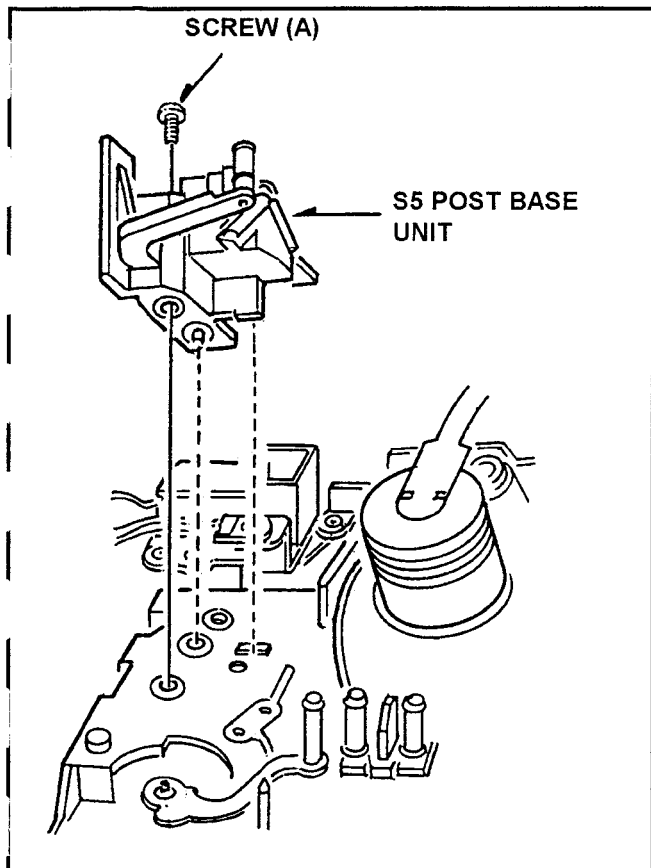

Fig. 6-17-1 Removal of S5 Post Base Unit
3. Unscrew the screw (A) and remove the S5 Post Base Unit as shown in Figure 6-17-1.
1. Install the S5 post Base Unit follow the removal steps in reverse order, then be careful the S5 Post Base Unit is install to mech chassis as shown in Figure 6-17-1.
2. After installation, Post Height pre-adjustment (Refer to item 5-5) and Linearity adjustment (Refer to item 5-18 [Tape Pass Adjustment Procedure]) should be performed.